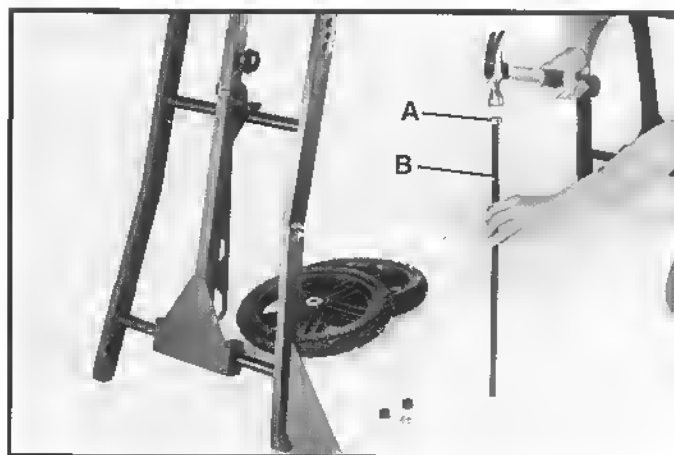

Fig. 16
1. Locate axle and axla cap and carefully hammer axla cap (A) onto ona and of axle (B), as shown in Fig. 16.